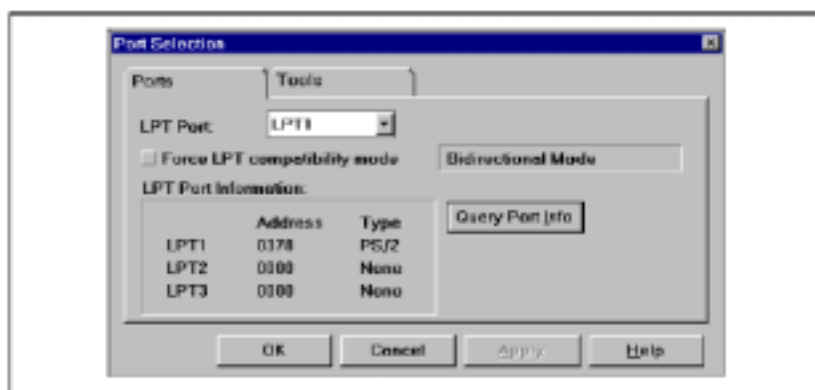

Figure 7.5: Port Selection Dialog - Ports Tab
- **Ports** – 设置与MPLAB ICE进行通讯的LPT端口(图7.5).